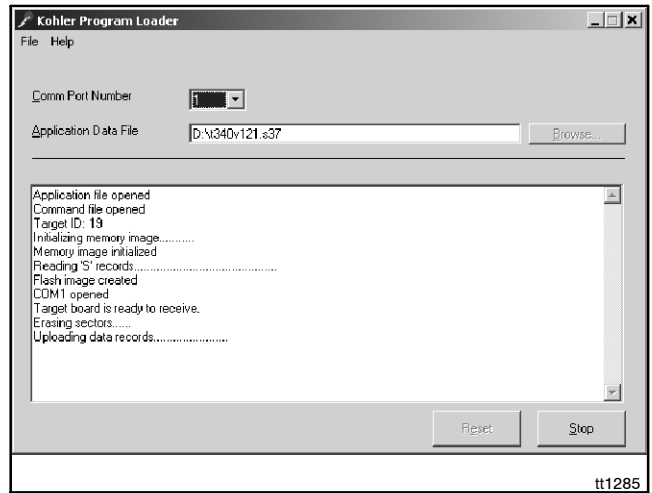

Figure 13 Program Loader Screen
7. Enter the number of the computer's COM port (number 1 through 16) that is connected to the controller through the communication cable. See Figure 13.
8. Enter the number of the computer's COM port (number 1 through 16) that is connected to the controller through the communication cable. See Figure 13.